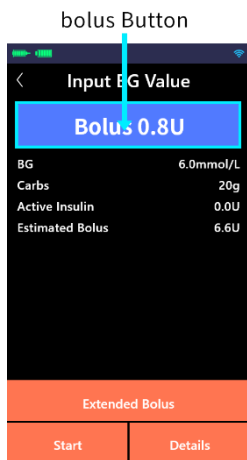

Figure 15.9
(3) After the settings of the BG value and carbs, the system will automatically estimate the bolus (as shown in Figure 15.9). The information area will display the BG value and carbs you input, as well as the active insulin and estimated bolus calculated by the system. You can click “Details” on the lower right corner to view the calculation process.
In the Bolus calculation result interface (as shown in Figure 15.9), click “Start” to perform normal bolus delivery. For details, please refer to: 7.1 *Normal bolus*; If you have enabled the extended bolus function, you can also click “Extended Bolus” to perform extended bolus delivery. For details, please refer to: 15.2 *Extended bolus*.